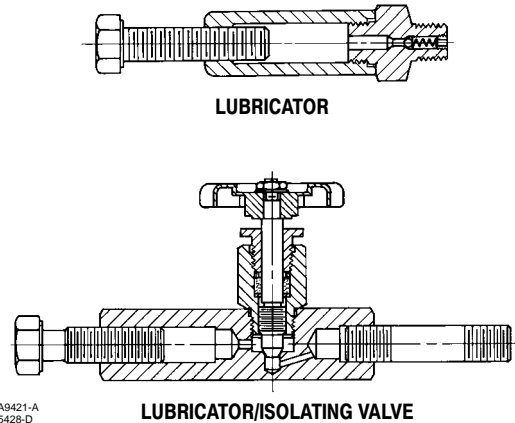

Figure 2. Optional Lubricator and Lubricator/Isolating Valve
If a lubricator or lubricator/isolating valve (figure 2) is provided for PTFE/composition or other packings that require lubrication, it will be installed in place of the pipe plug (key 14, figure 8). Use a good quality silicon-base lubricant. Packing used in oxygen service or in processes with temperatures over 260°C (500°F) should not be lubricated. To operate the lubricator, simply turn the cap screw clockwise to force the lubricant into the packing box. The lubricator/isolating valve operates the same way except the isolating valve must first be opened and then closed after lubrication is completed.